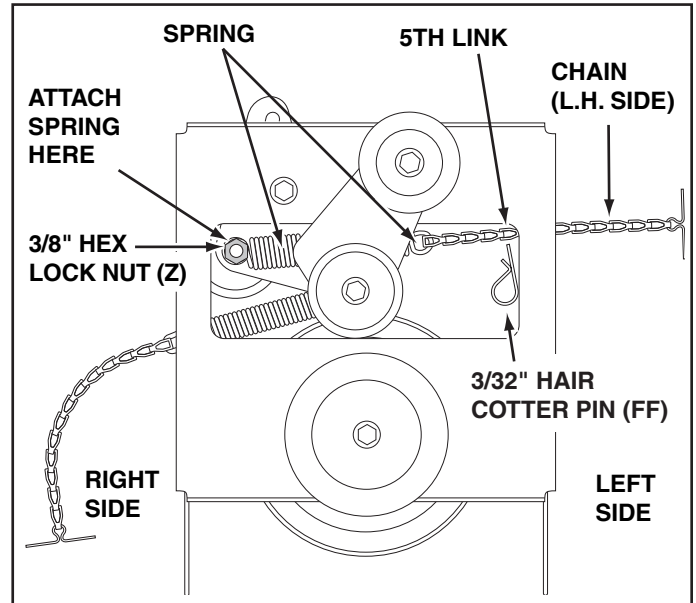

FIGURE 43
STEP 43: (SEE FIGURE 43)
- Hook the spring (OO) from the parts bag through the end of the tensioning chain.
- Hook the other end of the spring onto the bottom of the bolt and nut which secure the idler pulley to the upper idler arm. Hold the bolt head and assemble a 3/8" hex lock nut (Z) onto the bolt, leaving enough space for the spring to pivot freely between the two nuts.
- Attach a 3/32" hairpin cotter (FF) to the chain, placing it in the fifth link from the spring.